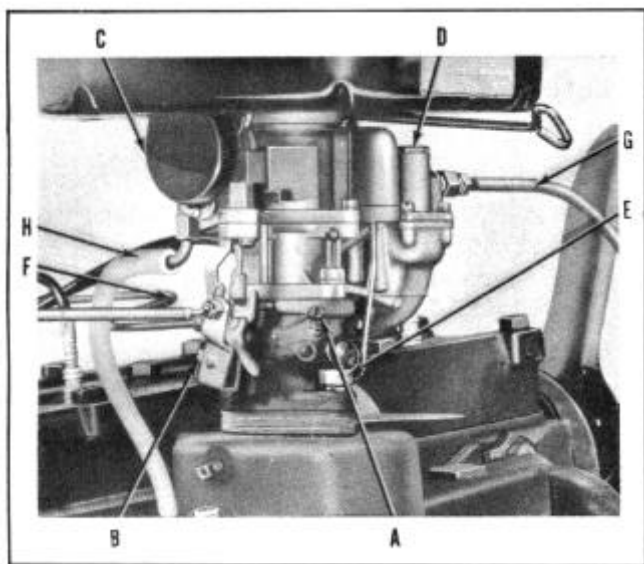

FIGURE 40
3. Set idle adjustment screw (A), Figure 40, to obtain smooth idle at 540 to 560 R.P.M. If car is equipped with Hydra-Matic, set idle at 490-510 R.P.M. Cars equipped with Twin